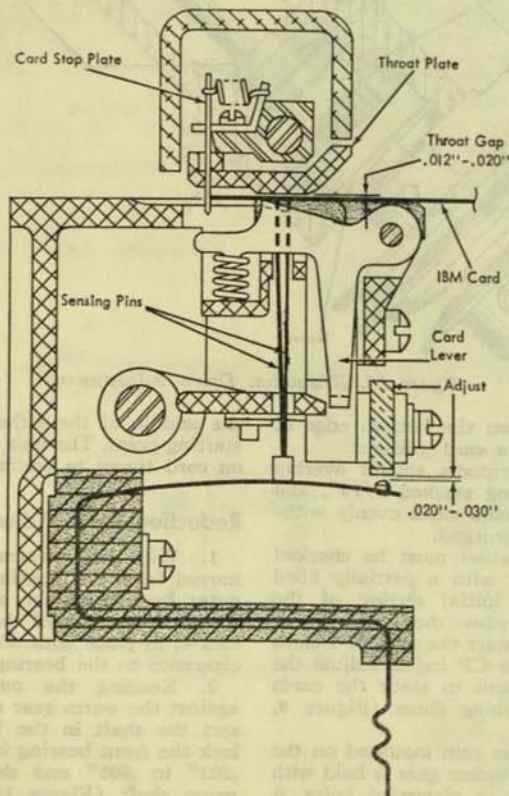

Figure 14. Pin Sensing Adjustment
2. Place the eject unit on the pin sensing assembly in its normal operating position. Hold together with screws if necessary. Adjust the throat gap for .012" to .020" clearance (Figure 14). Shim the throat
3. Insert a blank card and let the pins rest against it. Remove the contact cover (some machines do not have the cover) and adjust the common contact bar for a minimum air gap of .020" and a maximum gap of .030" (Figure 14).